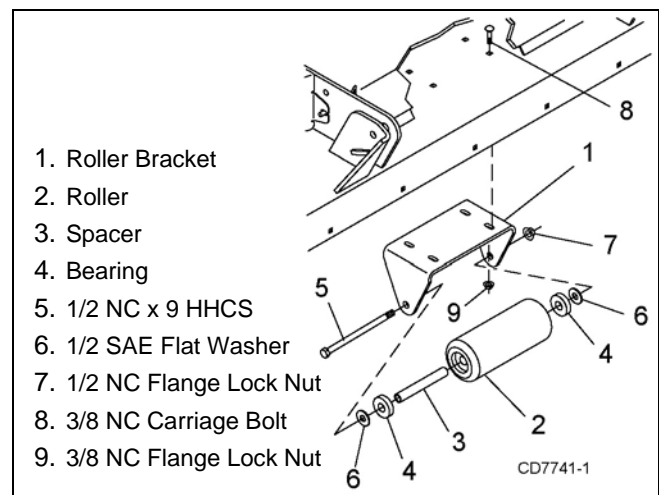

Figure 33. Front Roller Installation
2. Insert four carriage bolts (8) through top of deck plate.
3. Place roller bracket (1) over bolts; then install flange lock nuts (9) on bolts and tighten.
4. Place front roller (2), two bearings (4), spacer (3) and two SAE flat washers (6) between roller bracket as shown in Figure 33.
5. Insert cap screw (5) through bracket and roller.
6. Secure with flanged lock nut (7). Do not overtighten, roller must spin freely.